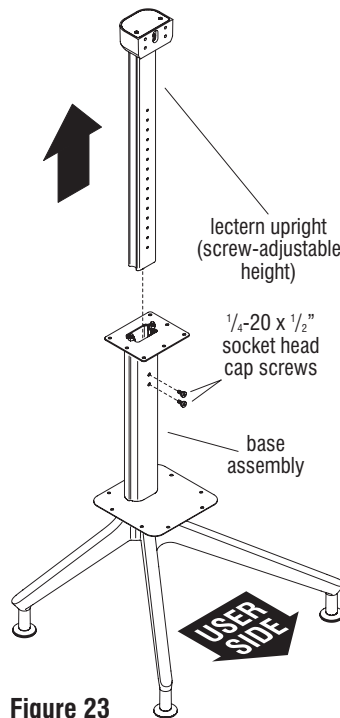

Figure 23
1. Remove the two 1/4-20 x 1/2" Allen cap screws from the base assembly (Figure 23 & Detail I2).
2. Pull out and remove the lectern upright from the base assembly. Set the lectern upright aside to be re-installed at a later step (Figure 23).